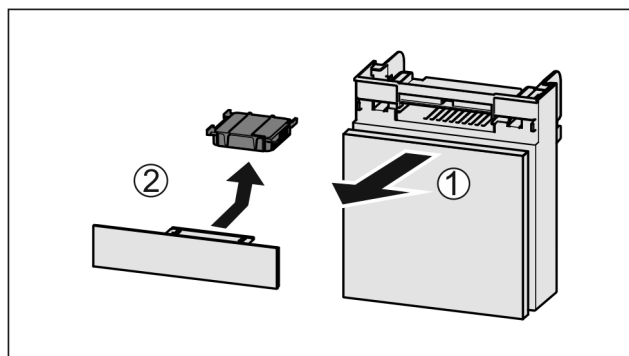

Fig. 171
- Pull out the compartment Fig. 171 (1).
- Remove the carbon filter Fig. 171 (2).